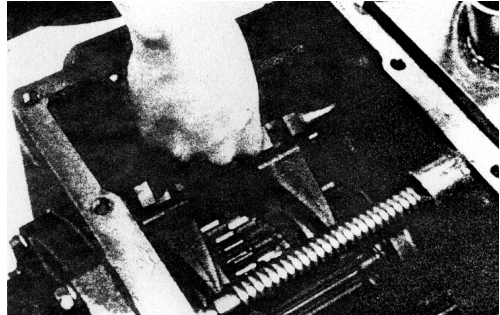

Fig. 3-22
b) Align the shift forks with the channel of mesh sleeve and put the shift forks and the direction shift lever into the transmission. (See Fig.3-22)